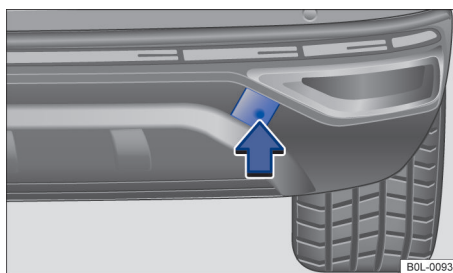

Fig. 129 In the rear bumper on the right: removing the cover
- Press the marked area of the cover in the direction of the arrow → Fig. 129 to release the cover catch.